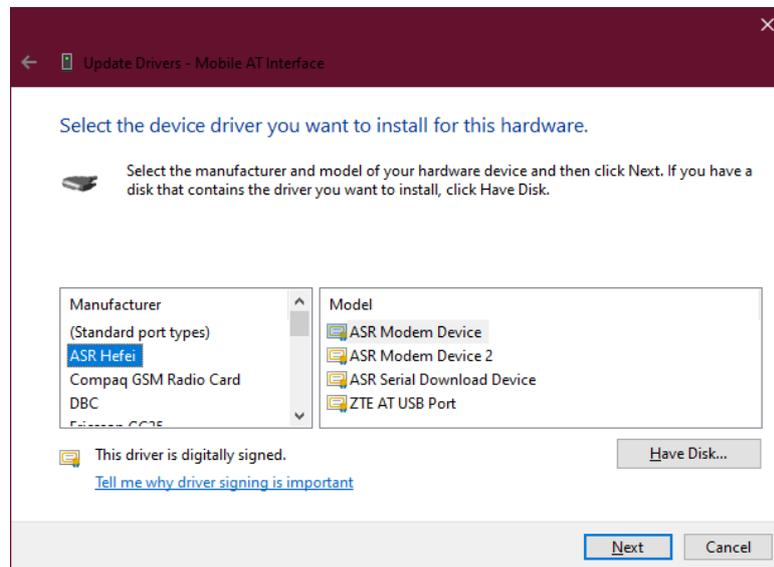

Figure 8: Device driver
- Finding “ASR Hefei”, then clicking “ASR Modem Device” as shown in Figure 8.